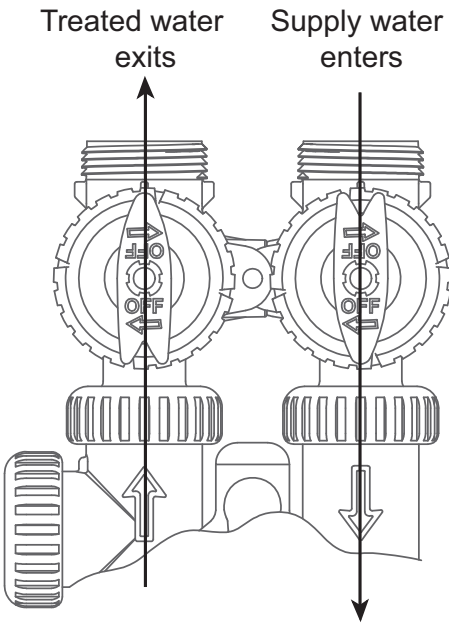

Figure 1 Normal Operation Position
1. **Normal Operation Position:** The inlet and outlet handles point in the direction of flow indicated by the engraved arrows on the control valve. Water flows through the control valve for normal operation of a water softener or filter. During the regeneration cycle this position provides regeneration water to the unit, while also providing untreated water to the distribution system. Refer to Figure 1.